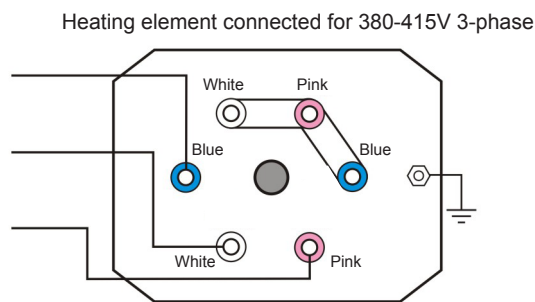
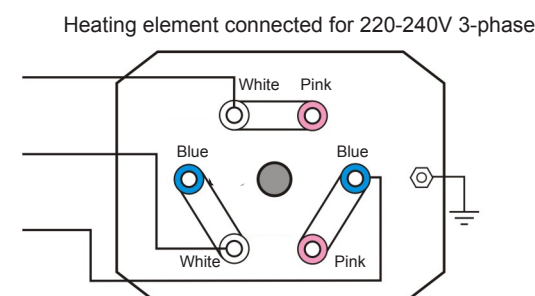

Figure 4
Figure 5
- On delivery, the heater is connected for 400V 3-phase, see figure 4 + electrical drawing page 13, but can be reconnected for 230V 3-phase, see figure 5 + electrical drawing page 14 (applies to all variants except 72kW).
- The input cabling for the contactors shall be fused in accordance with the table for the operating voltage in question, see figure 4 or 5.
On delivery, the heater is marked with a name plate and connected for 400V 3-phase (see figure 4) but can be reconnected for 230V 3-phase.
The input cabling to the contactors should then be fused according to the table above, see figure 5 + electrical drawing.